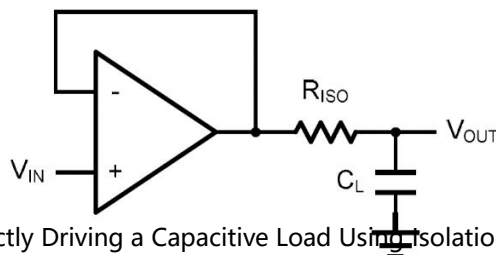
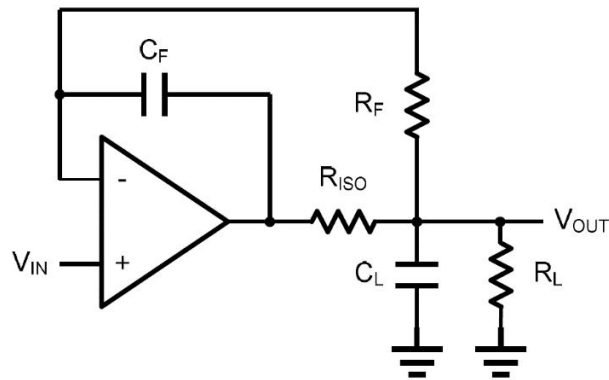

Figure 2. Indirectly Driving a Capacitive Load Using Isolation Resistor
Figure 3. Indirectly Driving a Capacitive Load with DC Accuracy
The CBM809X family is optimized for bandwidth and speed, not for driving capacitive loads. Output capacitance will create a pole in the amplifier's feedback path, leading to excessive peaking and potential oscillation. If dealing with load capacitance is a requirement of the application, the two strategies to consider are (1) using a small resistor in series with the amplifier's output and the load capacitance and (2) reducing the bandwidth of the amplifier's feedback loop by increasing the overall noise gain. Figure 2. shows a unity gain follower using the series resistor strategy. The resistor isolates the output from the capacitance and, more importantly, creates a zero in the feedback path that compensates for the pole created by the output capacitance.
The circuit in Figure 3 is an improvement to the one in Figure 2. R_F provides the DC accuracy by feed-forward the V_{IN} to R_L . C_F and R_{ISO} serve to counteract the loss of phase margin by feeding the high frequency component of the output signal back to the amplifier's inverting input, thereby preserving the phase margin in the overall feedback loop. Capacitive drive can be increased by increasing the value of C_F . This in turn will slow down the pulse response.